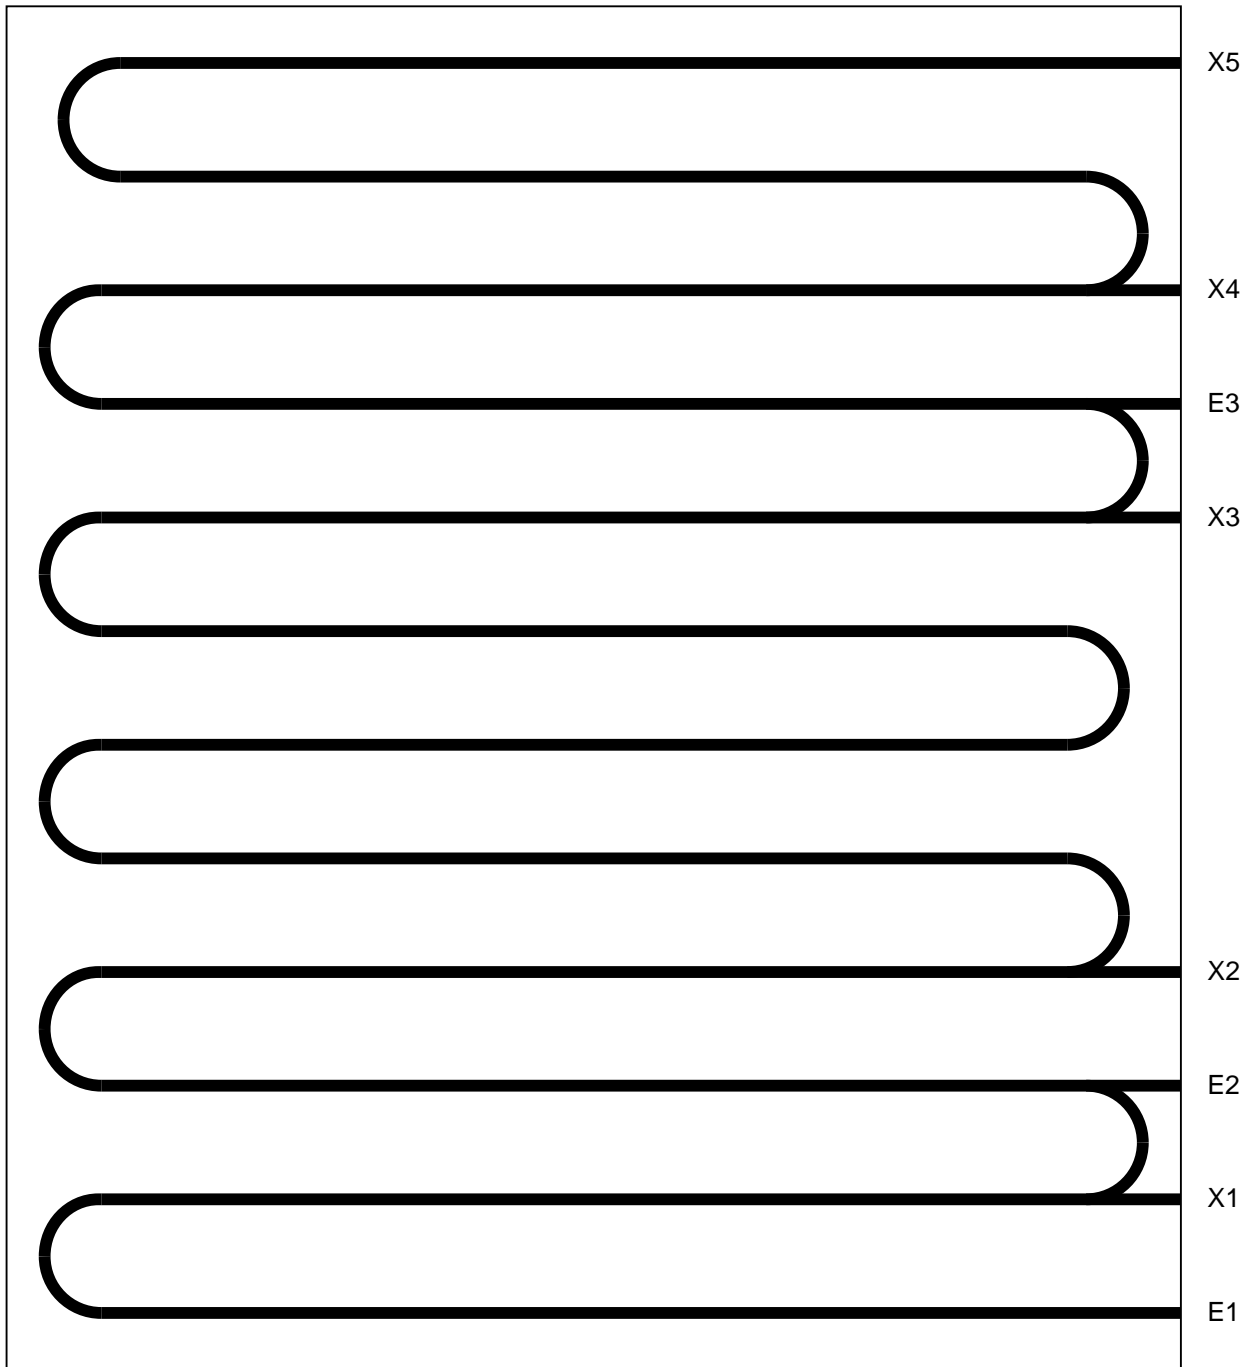

FIGURE 1
- 5.2.2 Refer to Figure 1 on next page. E1 to E3 are tube entry points. Select the appropriate entry point for the tubing length utilised. X1 to X5 are tube exit points. The following table gives details to select entry and exit points according to approximate tubing length:
- 8.1.3 Insert a calibrated thermometer that is traceable to national standards into tube entry E1 as shown in figure 1.